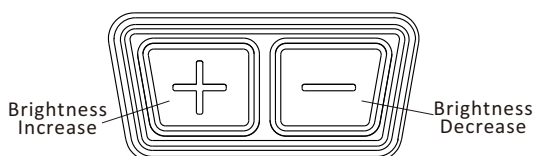

Fig5
1.Switch on: Press and release either brightness button ("+" or "-") to turn on the sight, See Fig 5.